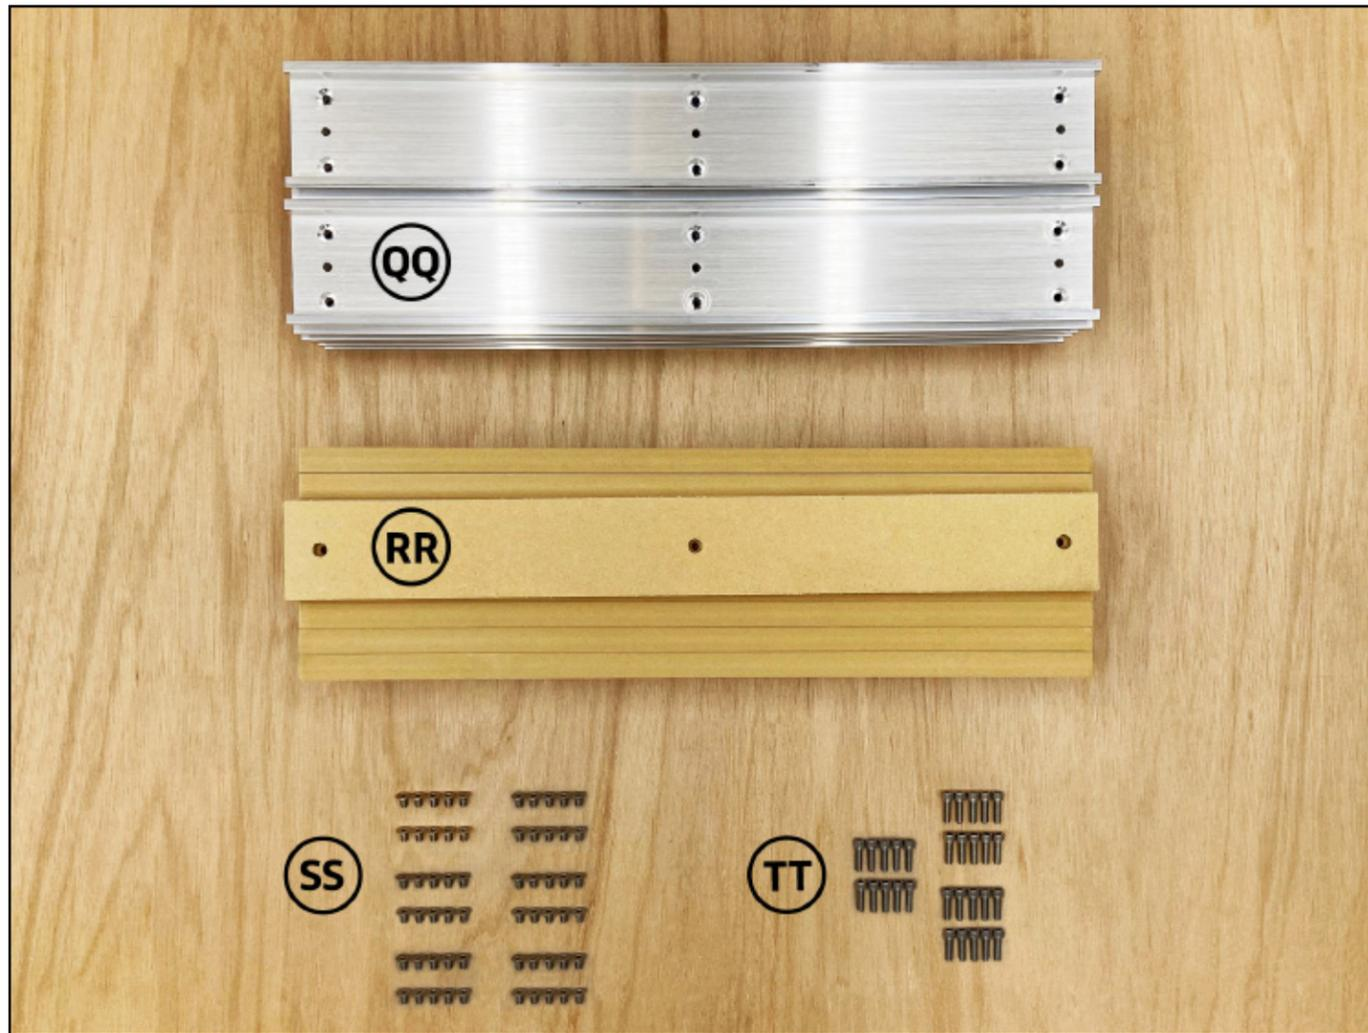

Figure 8-1
Step 8 – Hybrid Table box contents; see *Fig. 8-1*.